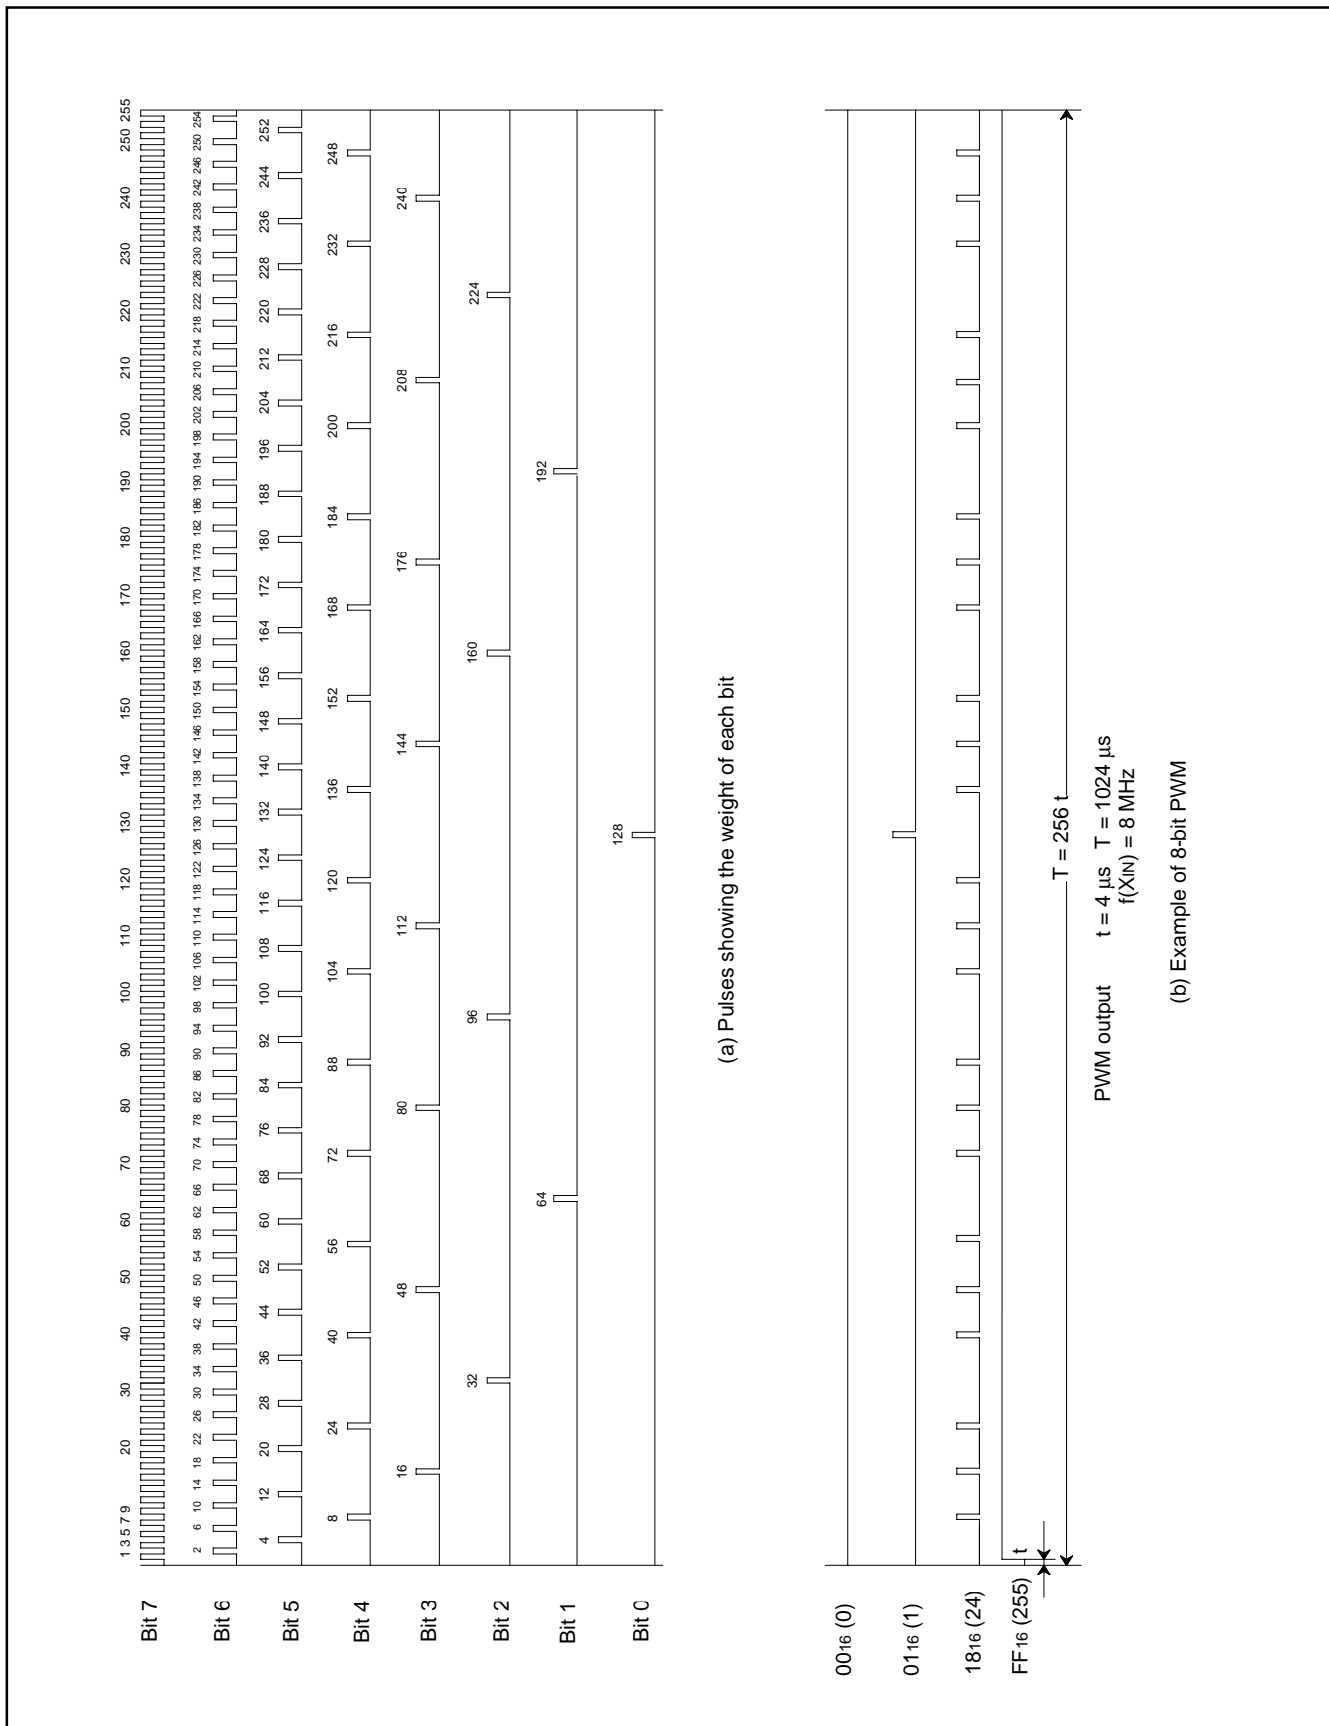

Fig. 8.7.2 PWM Timing
Figure 8.7.2 shows the 8-bit PWM timing. One cycle (T) is composed of 256 (28) segments. The 8 kinds of pulses, relative to the weight of each bit (bits 0 to 7), are output inside the circuit during 1 cycle. Refer to Figure 8.7.2 (a). The 8-bit PWM outputs waveform which is the logical sum (OR) of pulses corresponding to the contents of bits 0 to 7 of the 8-bit PWM register. Several examples are shown in Figure 8.7.2 (b). 256 kinds of output (HIGH area: 0/256 to 255/256) are selected by changing the contents of the PWM register. A length of entirely HIGH output cannot be output, i.e. 256/256.